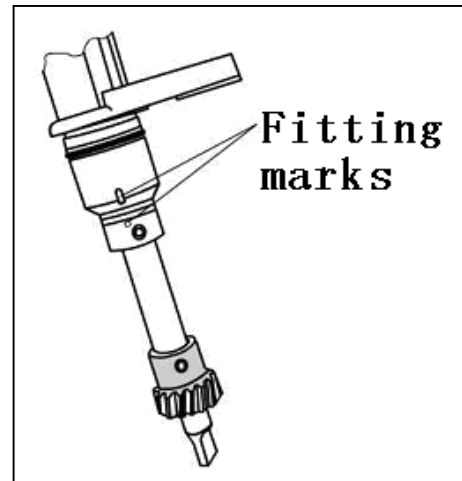

Fig.3-11 The direction of piston and connecting rod in cylinder
- A.** Rotate crankshaft to TDC position. Then use a screwdriver to turn the groove in shaft end of oil pump (refer to fig.3-11).